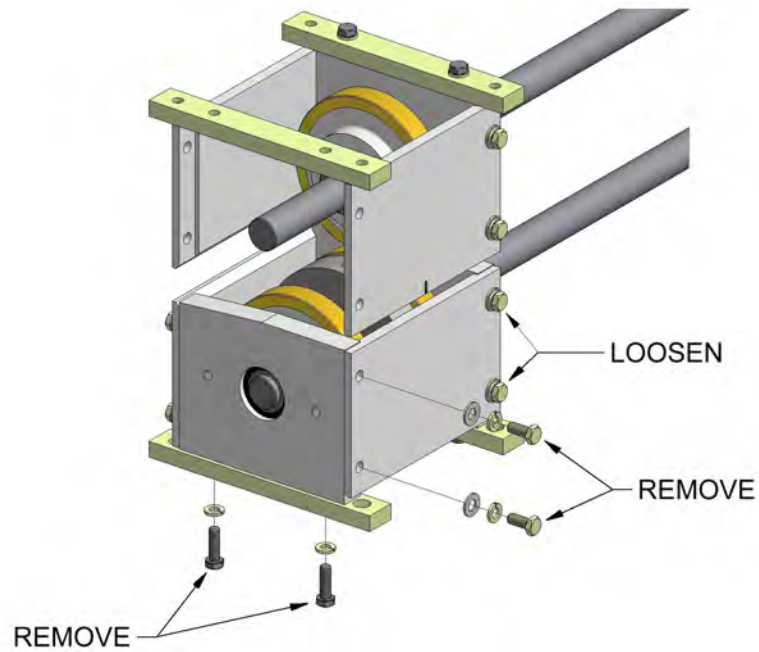

Fig. 8-6. Slitter Knife Removal Step 5
5. Remove the four bolts shown in **Fig 8-6**, and loosen the two bolts shown in **Fig 8-6**.